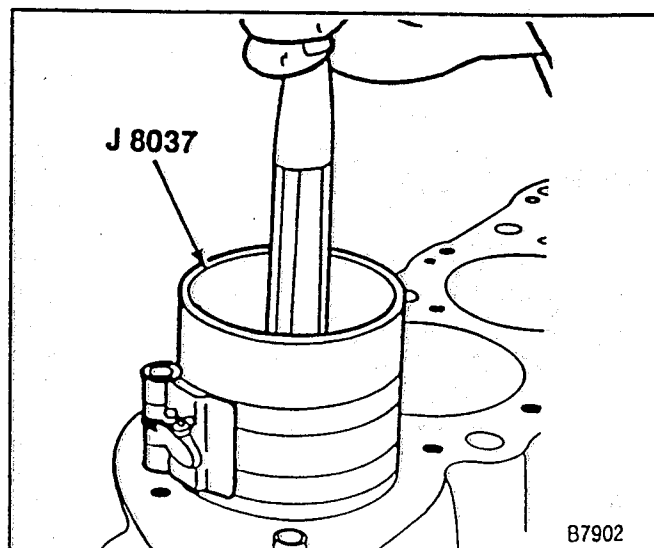

Figure 80—Installing the Piston
- D. Without disturbing the ring end gap location, install J 8037 over the piston (figure 80).